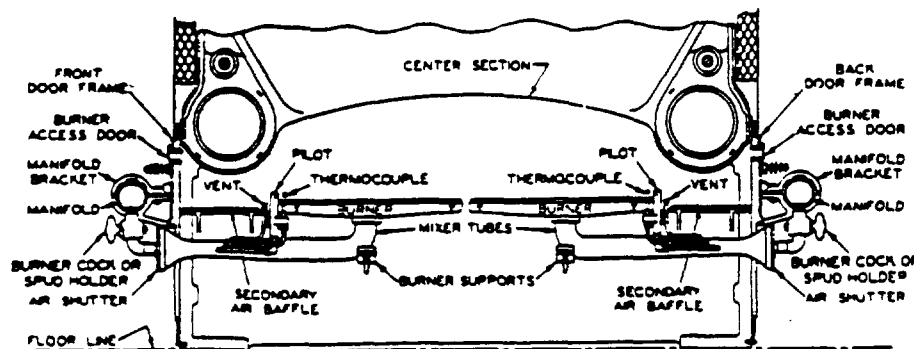

FIG. 7—Burner Installation—Pilot Burner, Thermocouple and Vent Tube
1. Assemble sub-assemblies of manifold, manifold piping, automatic gas valve and gas pressure regulator or automatic pilot valve and attach to boiler. See that orifice spuds in ends of burner cocks or spud holders are screwed in tight and that orifices are drilled to size specified on tag attached to manifold. (See Figs. 7, 8, 9, 10 and 11.)
2. See that air shutter is assembled on each mixer tube, then place mixer tubes firmly on gas cocks or spud holders and burner support. Assemble main burners on tapered ends of mixer tubes so they are straight and level. (See Figs. 7, 8, 12, 13, 14 and 15 for proper burner locations).
3. Place front and back secondary air baffles on lugs on end and intermediate sections. The baffle flanges should be away from burners and turned downward. See Figs. 7 and 8.